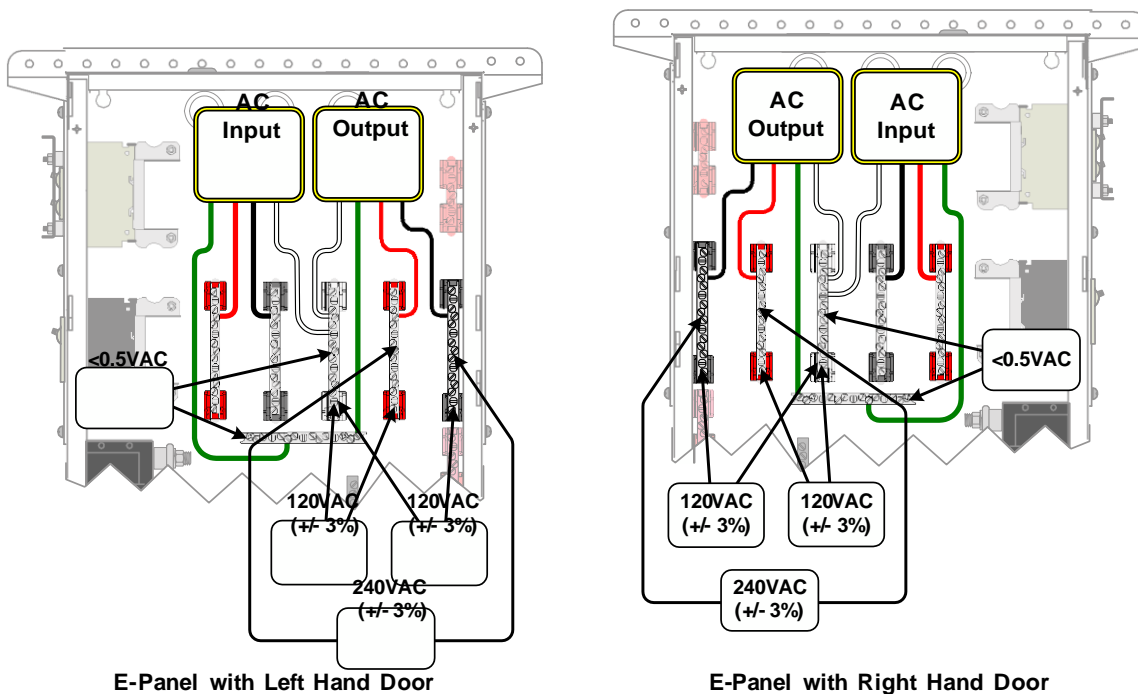

Figure 16, Testing AC Wiring Connections
3. Inside the E-Panel enclosure, use an AC voltmeter and measure the inverter voltage (Refer to figure 16 for the following voltage checks):
2. In the E-Panel, use an AC voltmeter and measure the generator or utility voltage (Refer to figure 16 for the following voltage checks):